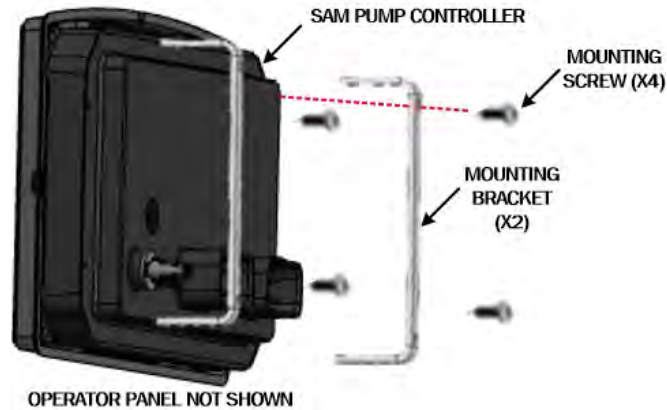

Figure 35. SAM Pump Controller R&R
- D. Using 5/64-in hex socket and ratchet (set CCW) (or Allen key), remove two [2] 8-32 x 1/2-in long button head hex screws (with lock washers) and associated bracket. See Figure 35.
See Figure 35.